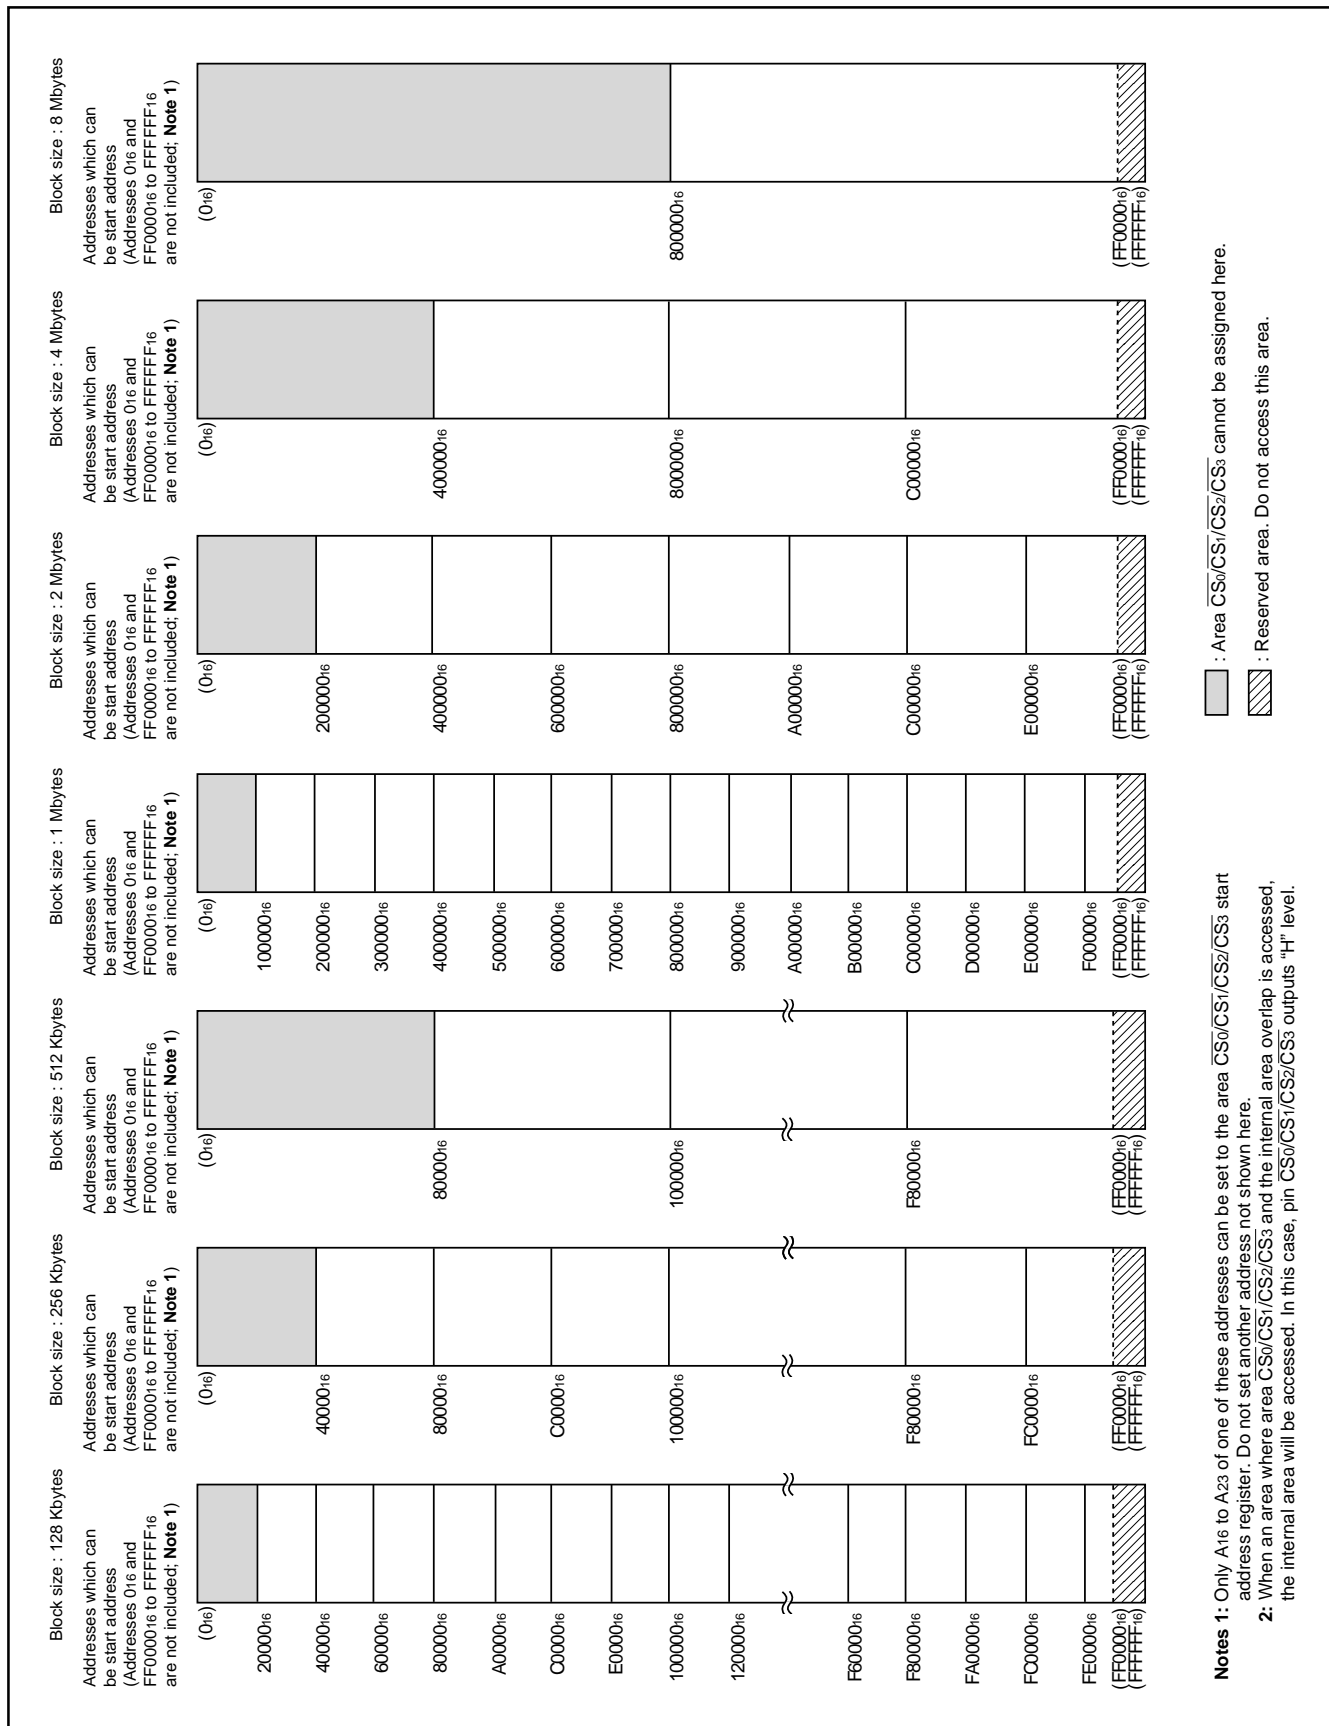

Fig. 33 Area  $\overline{CS_0}/\overline{CS_1}/\overline{CS_2}$  (mode 0) and area  $\overline{CS_3}$
**Note:** The start address setting depends on the block size, which has been selected by the area  $\overline{CS}_3$  block size select bits (bits 0 to 2 at address 8716). See Figure 33.